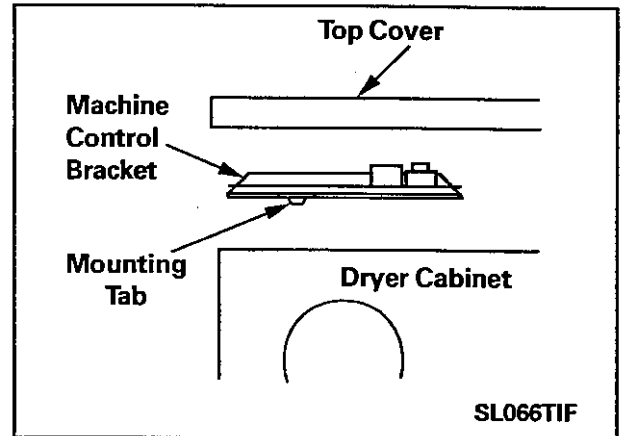

Figure 9-8
6. Raise machine control board bracket to disengage the locating tab on the bracket from the locator notch in the dryer cabinet flange (Figure 9-8).